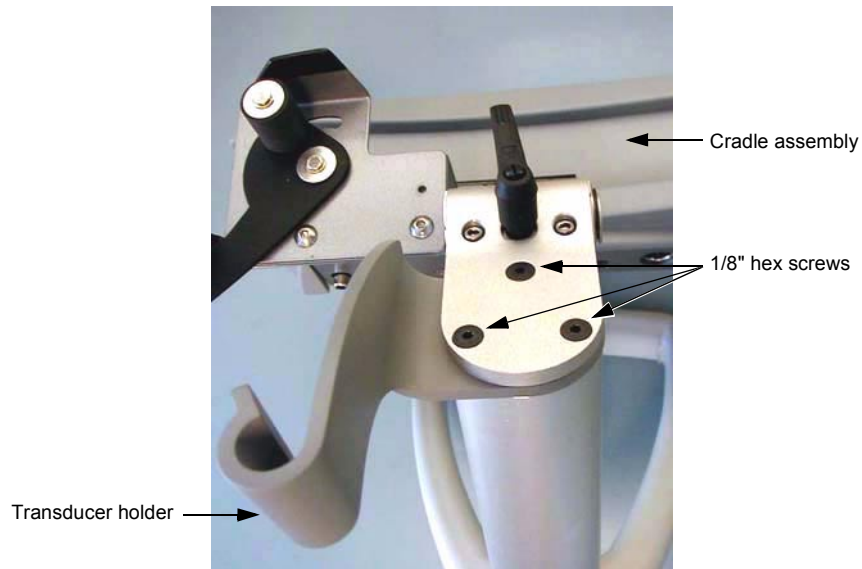

Figure 7.20 Top of Stand
- 1 Remove the three (3) 1/8" hex screws from the top of the stand. Set the transducer holder aside and place the cradle assembly on a static free surface. (Figure 7.20)